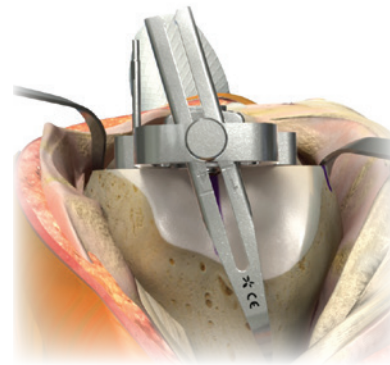

Figure 16d
6. Slide the Femoral Stylus backward or forward so that the size indicated on the Femoral Stylus matches the size indicated on the Femoral Sizer. The point at which the Femoral Stylus contacts the bone marks the peak of the femoral anterior flange (Figure 16d).